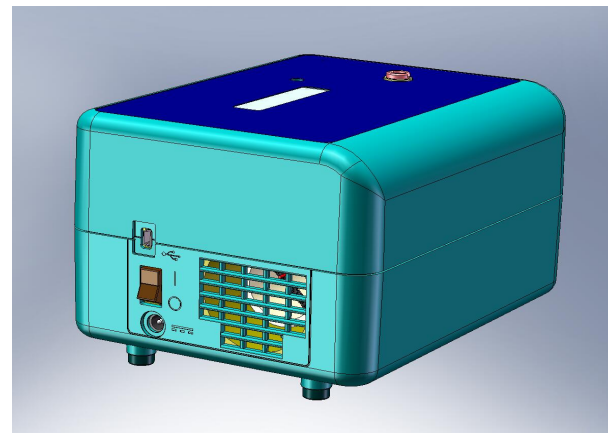

Figure 5 Side view of Vernier Mini GC Plus
- a. Plug in the AC Adapter and turn on the Mini GC Plus, using its on-off switch on the left side (see Figure 5).
Figure 5 shows a side view of the Vernier Mini GC Plus. The power input jack, power switch, USB connection to the computer or LabQuest, and column ventilation grill are shown in this view.